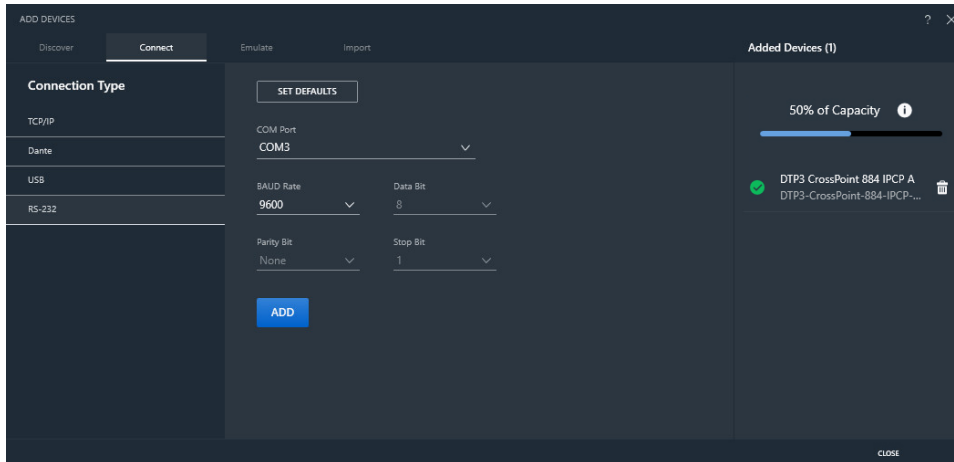

Figure 45. Connect to the Device via RS-232
- Click the **RS-232** tab (see figure 45) in the Connection Type panel.